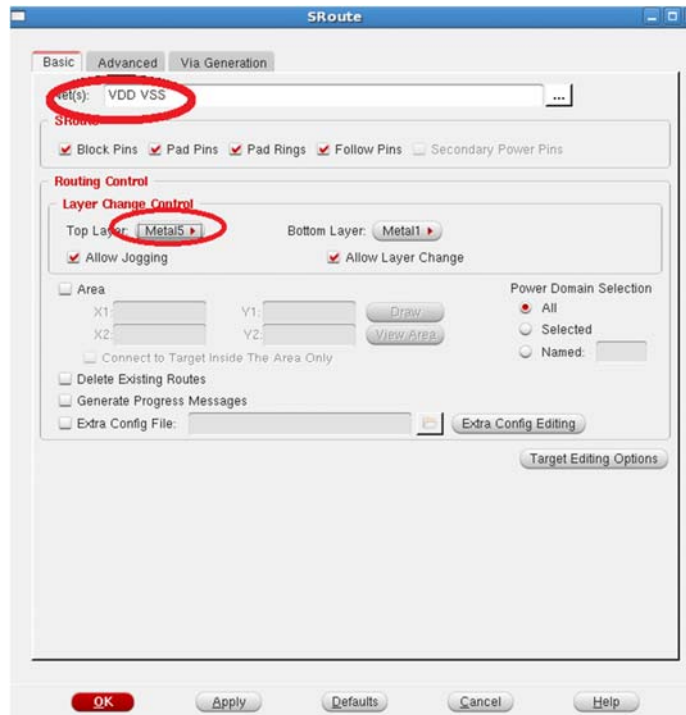

Figure Lab8-8 Supply Rails for Cells
9. Gates are placed in the layout row-by-row. We need to provide supply rails for them. **Route**→**Special Route**. Key in parameters as shown in Figure Lab8-8.